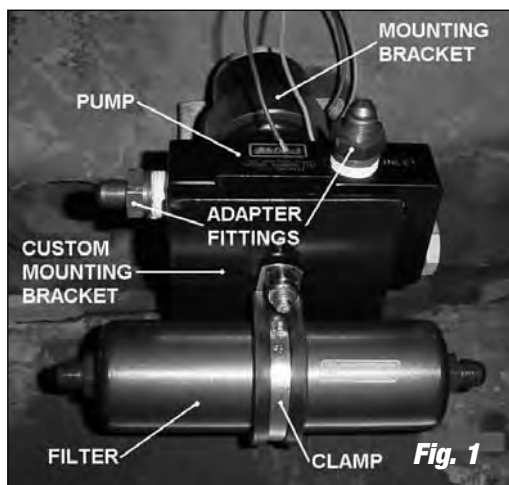

Fig. 1
5. Install supplied Russell adapter fittings into inlet and outlet of Edelbrock electric fuel pump, using pipe thread sealant (**See Fig. 1**).
6. Create mounting location for fuel pump and large Russell filter. Filter goes between tank and pump. Pump should be as close to fuel tank as possible, and as low as possible without being exposed to exhaust heat, suspension or driveline movement, or road hazards. Use fully-clamped pump mounting bracket as template for drilling mounting holes. **NOTE:** fabrication of an additional mounting bracket may be required (**See Fig. 1**).
7. Mount fuel pump in desired location. Mount filter with supplied clamp (**See Fig. 1**).